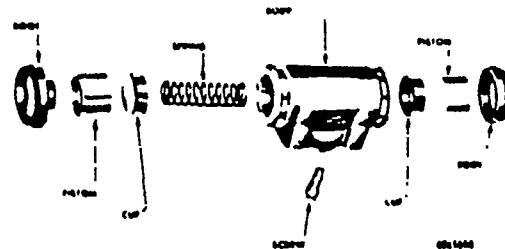

Fig. 41 Wheel Cylinder Disassembled - Typical
3. Install piston cup in one end of cylinder with lip toward center, and install piston with flat side toward cup. (see fig. 41)